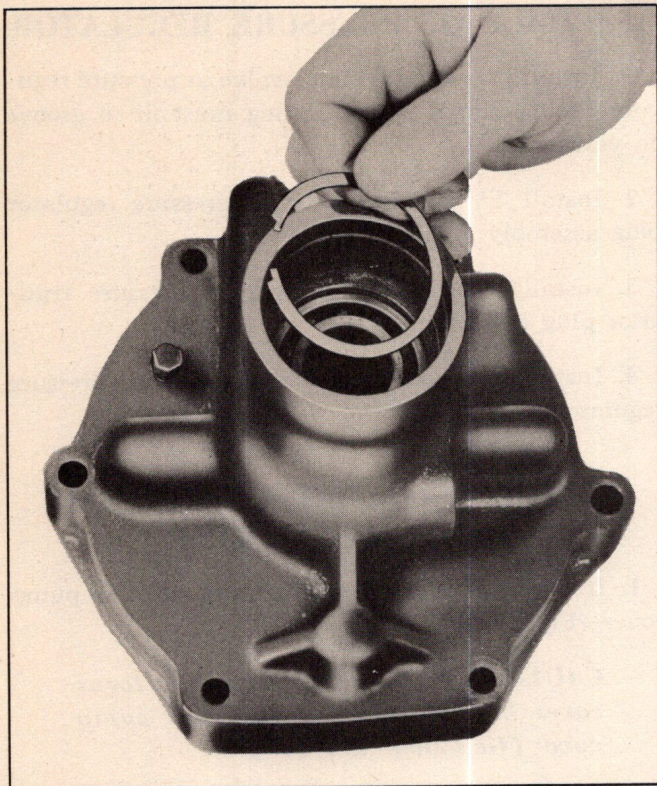

Fig. 268—Installing Snap Ring in Rear Bearing Retainer
18. Install large special type snap ring in rear bearing retainer locating ball bearing (Fig. 268). (Use a new snap ring.)